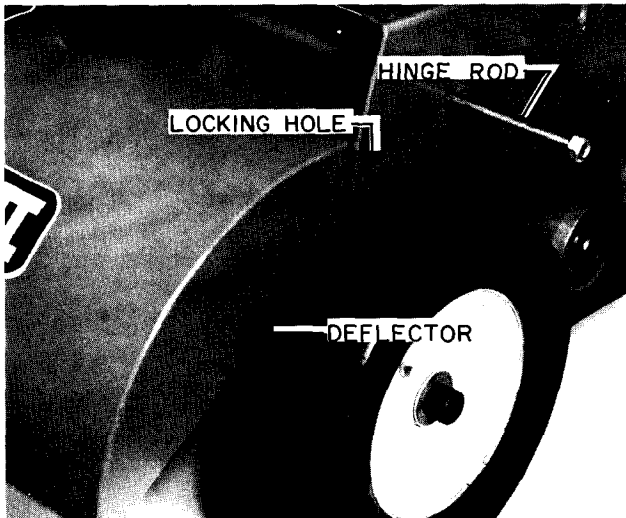

Figure 3
1. Place guard in position on machine and align with holes. See fig. 3. (next page)